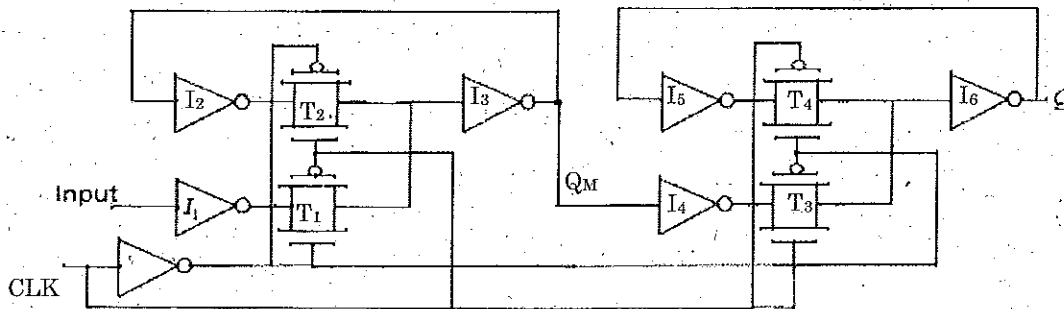

Fig. 4
13. (a) - (i) Identify the type of register for the circuit shown in figure 4 and express set up time, hold time and propagation delay of register in terms of the propagation delay of inverters and transmission gates. (5)